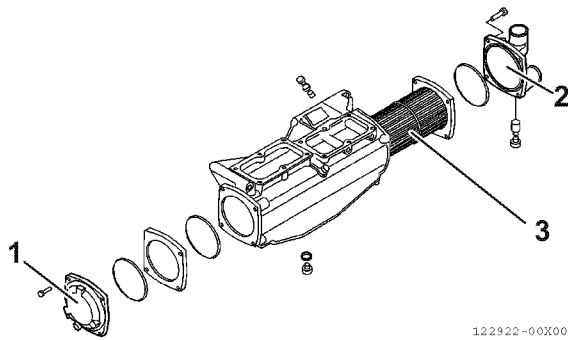

Figure 16
4. Remove the covers (**Figure 16, (1)**) and (**Figure 16, (2)**) at the bench or in a suitable place.
5. Extract the tube bundle (**Figure 16, (3)**).